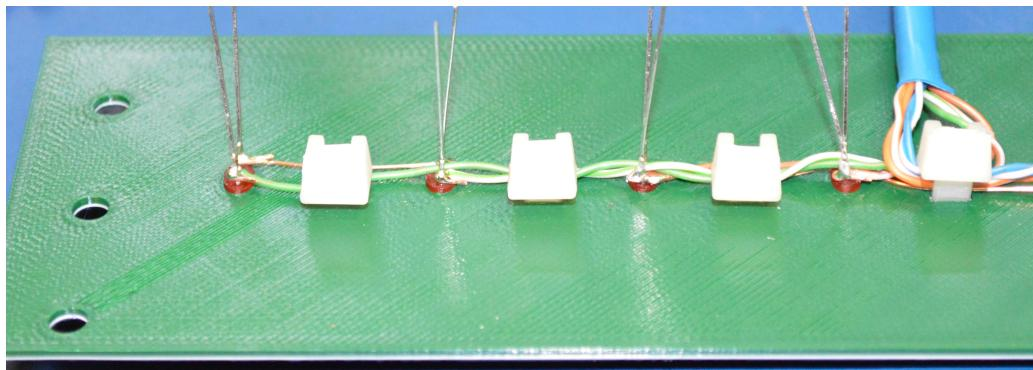

Figure 2.10: Solder the Remaining LEDs on That Side and Add Cable Ties
- Solder the remaining LEDs on that side and add cable ties between them. See Figure 2.10.